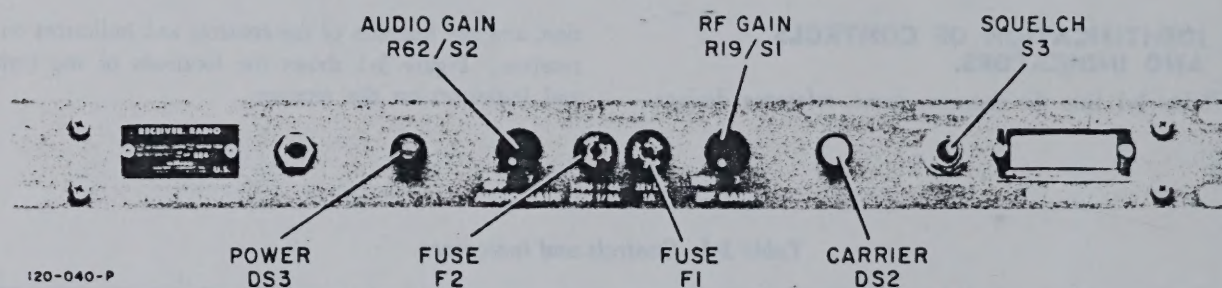

Figure 3-1. Receiver, Front Panel Control and Indicator Locations
tion, and the function of the controls and indicators on the receiver. Figure 3-1 shows the locations of the controls and indicators on the receiver.
3-8. Refer to figure 3-1, and turn the AUDIO GAIN control in a clockwise direction from the PWR OFF position. The POWER indicator lamp shall glow.
a. Refer to figure 3-1. Set the RF GAIN control to the full clockwise position and the AUDIO GAIN control to position 4.
a. Refer to figure 3-1. Set the AUDIO GAIN control to position 4 and the RF GAIN control to the REM position.